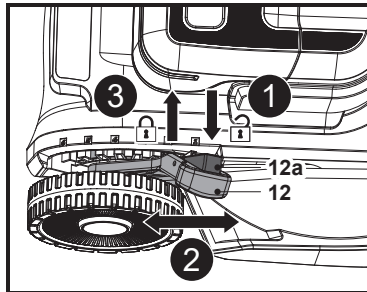

Fig. 12
1. Squeeze the locking button (12a) and hold it in position (Fig. 12, step 1).
2. Move the lever (12) forward or backward to adjust the cutting height (Fig. 12, step 2).
3. Release the locking button (12a) and ensure the lever (12) engaged in the slot properly (Fig. 12, step 3).